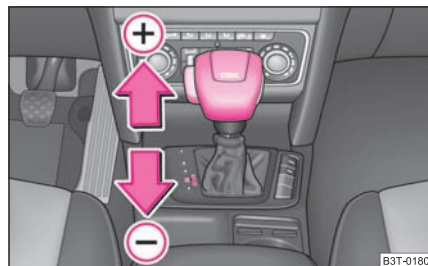

Fig. 134 Selector lever: Manual shifting of gears
- One-touch forward of the selector lever (in the Tiptronic position) ⇒ page 126, fig. 134 (+).